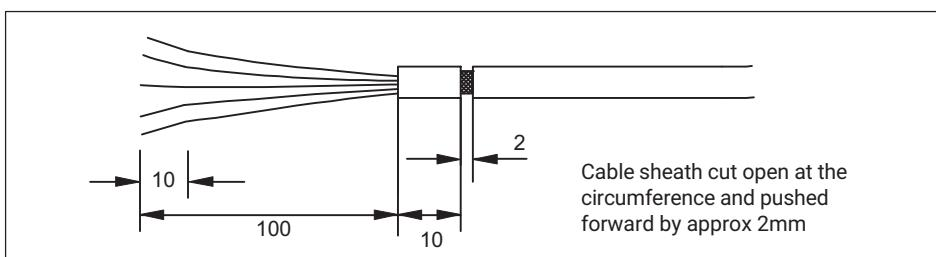

Fig. 8.1 Slit cable sheath
4. You can get to the screen through a slit in the cable sheath (see Fig. 8.1).